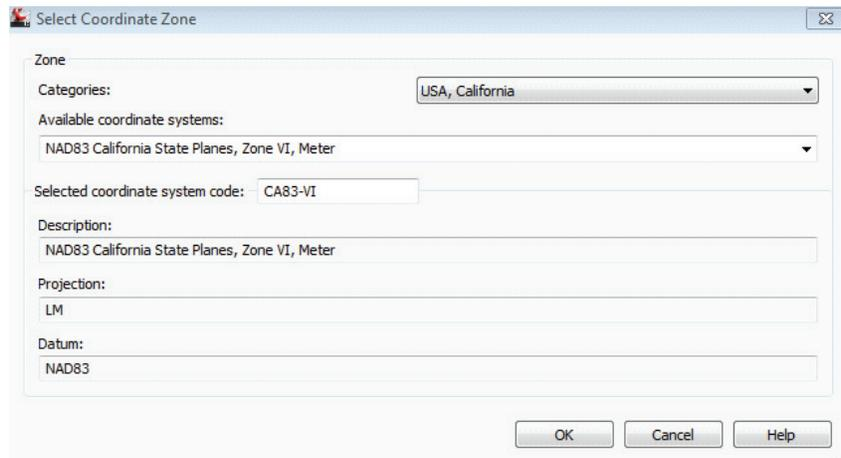

Figure 2–9
- Set the *Distance* to **Meter**, the *Direction* to **North Azimuths**, the *Temperature* to **Celsius**, and the *Pressure* to **Millimeters Hg**, as shown in Figure 2–10. When done, click  to close the dialog box.